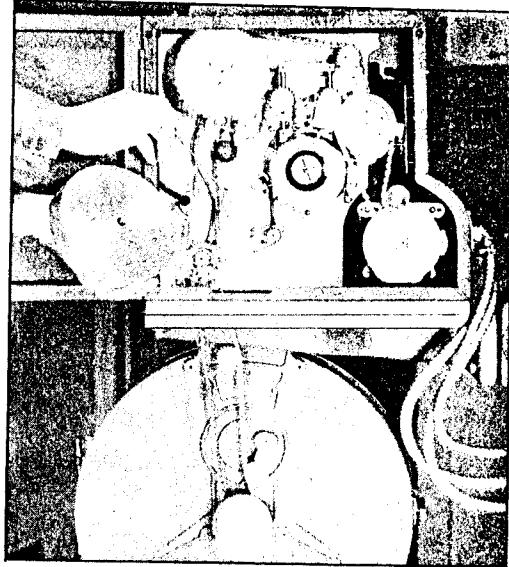

Figure 15.
- a. Remove the flywheel by placing the 1/8" rod supplied with the equipment into the unthreaded hole of the collar on the shaft of the stabilizer. Unscrew the flywheel while holding the shaft steadily in place. Refer to Figure 15.